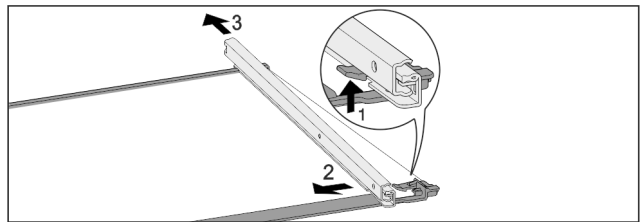

Fig. 44 Glass shelf with rails
- ▶ Push up front click-in hooks. Fig. 44 (1)
- ▶ Slide pull-out rails to the side Fig. 44 (2) and backwards Fig. 44 (3).